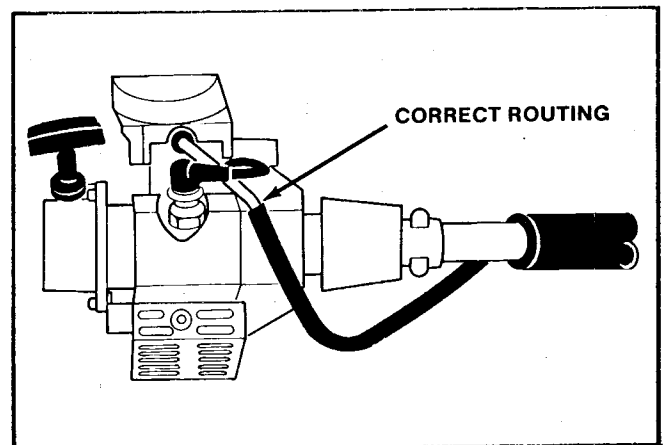

Figure 107
6. Route the throttle cable and switch wires from the carburetor over the top of the tube. See Figure 107.